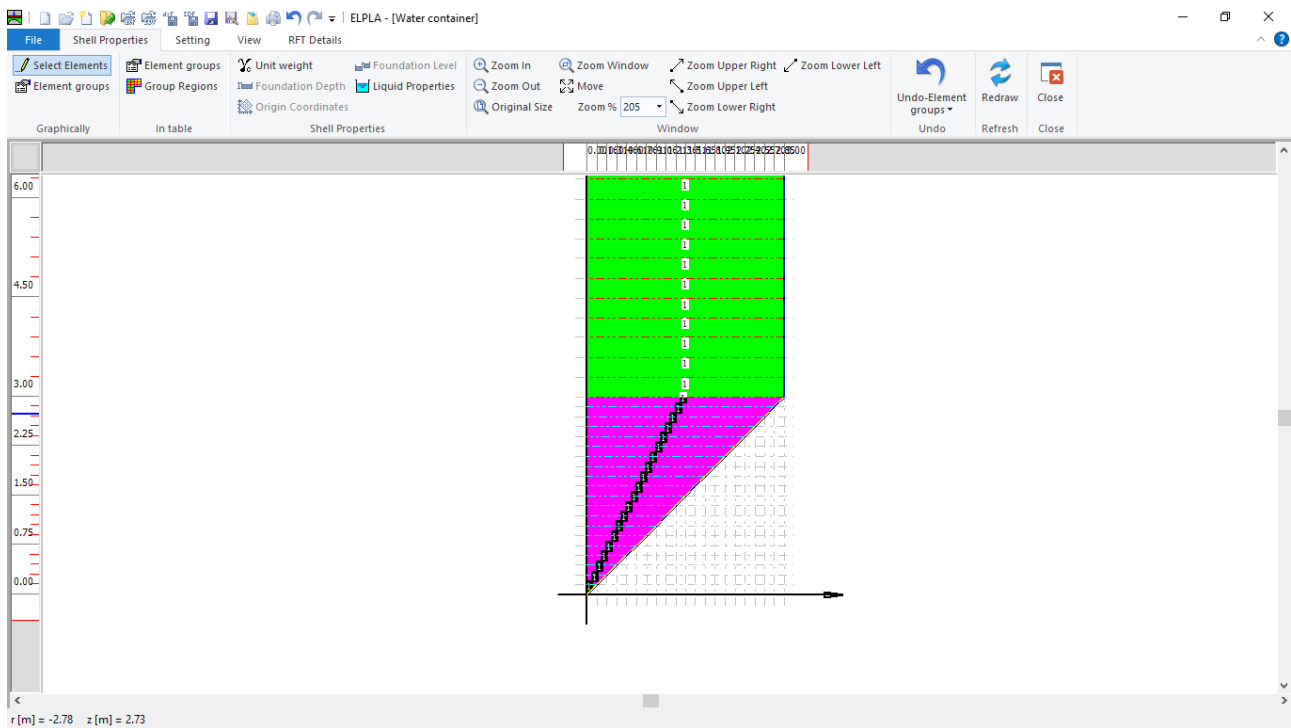

Figure 10.12 Selecting the elements that include the tank base
- Select the elements that include the tank base as Figure 10.12